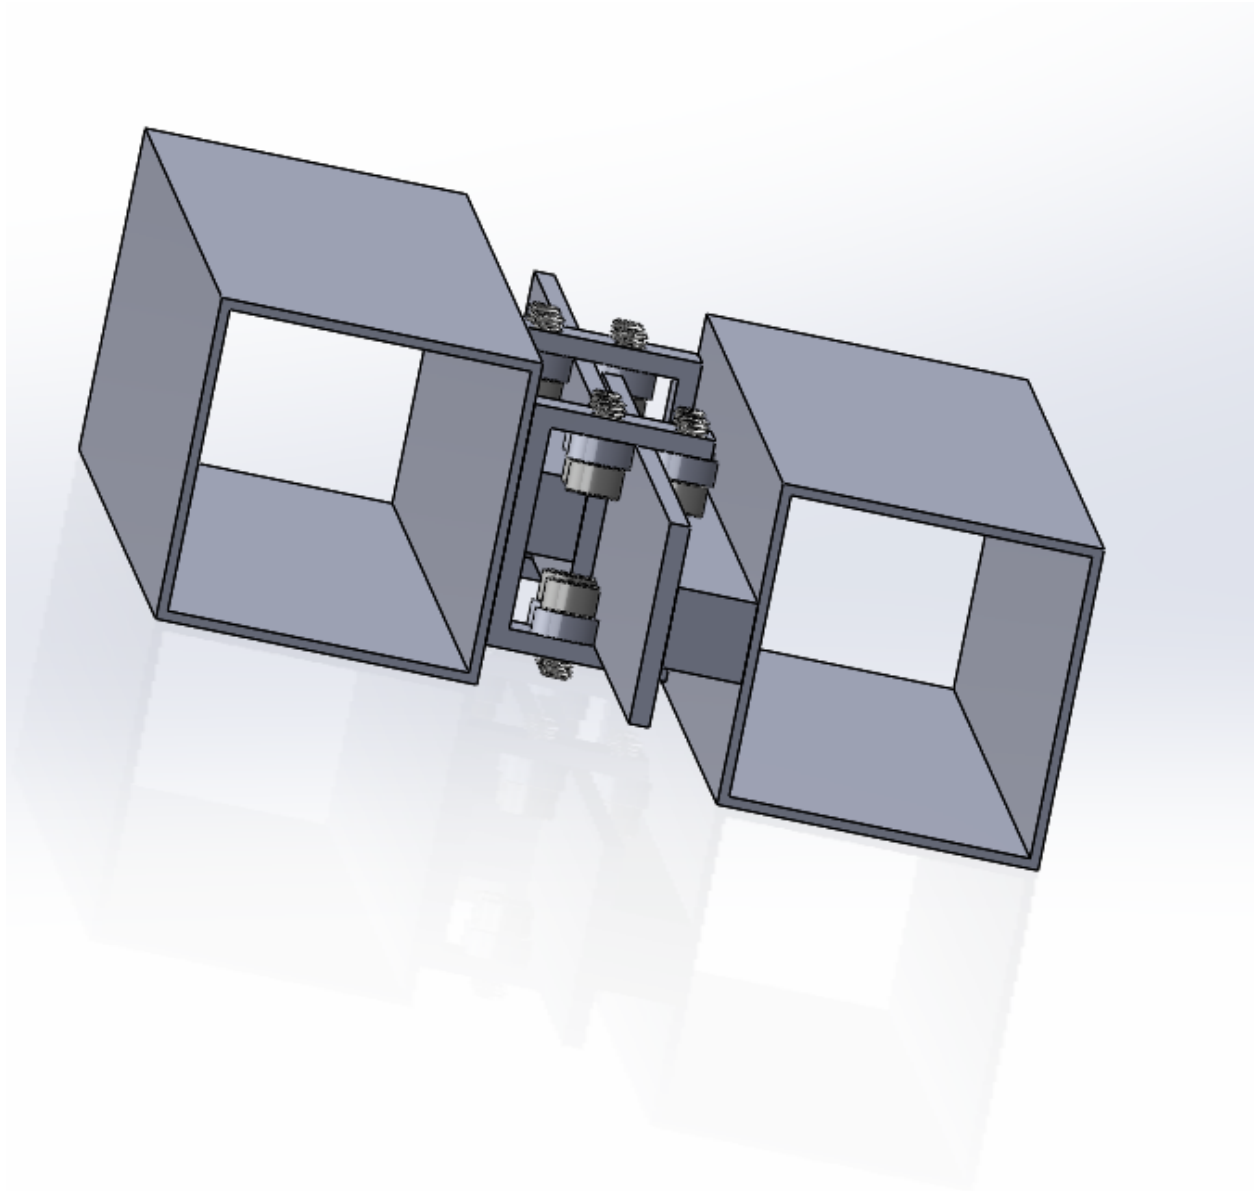

Figure 2
**All:** All members of the team worked together to develop a cad model of the robot this is seen in figure 2. Where we have the two pieces of box aluminum which will serve as the superstructure of the arm and a rolling assembly which will move the two parts of the arm.